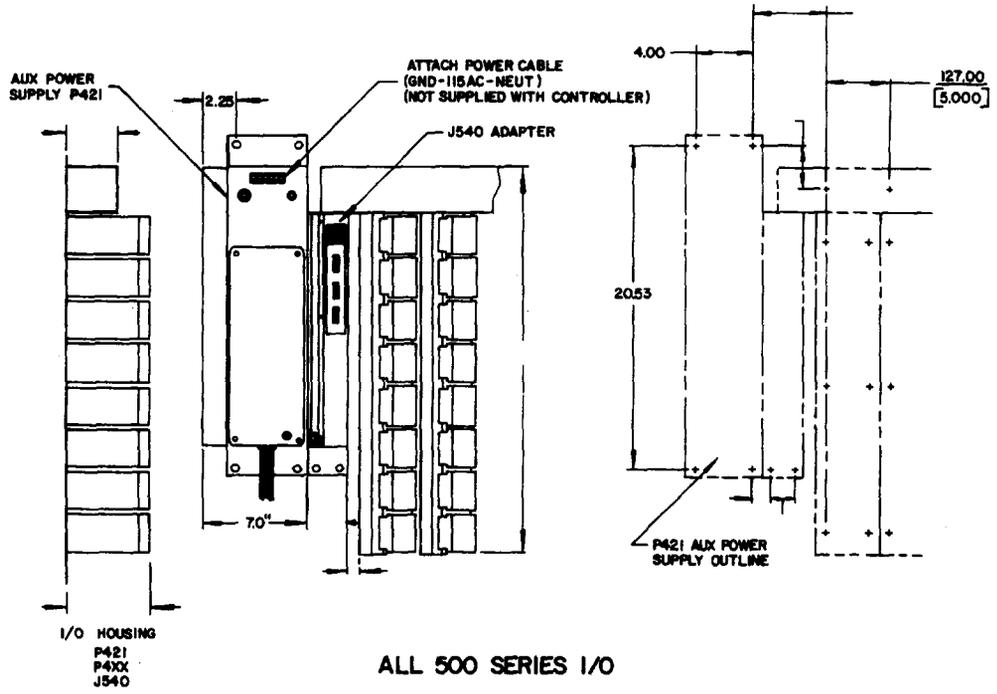

Figure 4-14. 500 Series I/O Mounting Dimensions
1. Mark the housing's support surface before drilling holes for mounting bolts. Mounting dimensions for 500 Series I/O are shown in Figure 4-14.